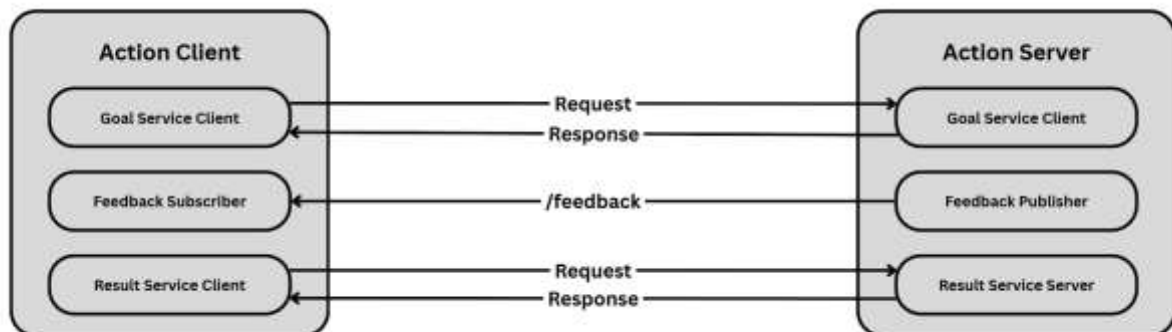

Fig. 4 Actions
3) *Actions*: Actions are preferred for discrete behaviour and tasks that take longer to start. Actions are Heavily used in Nav2 Package [Fig 4].